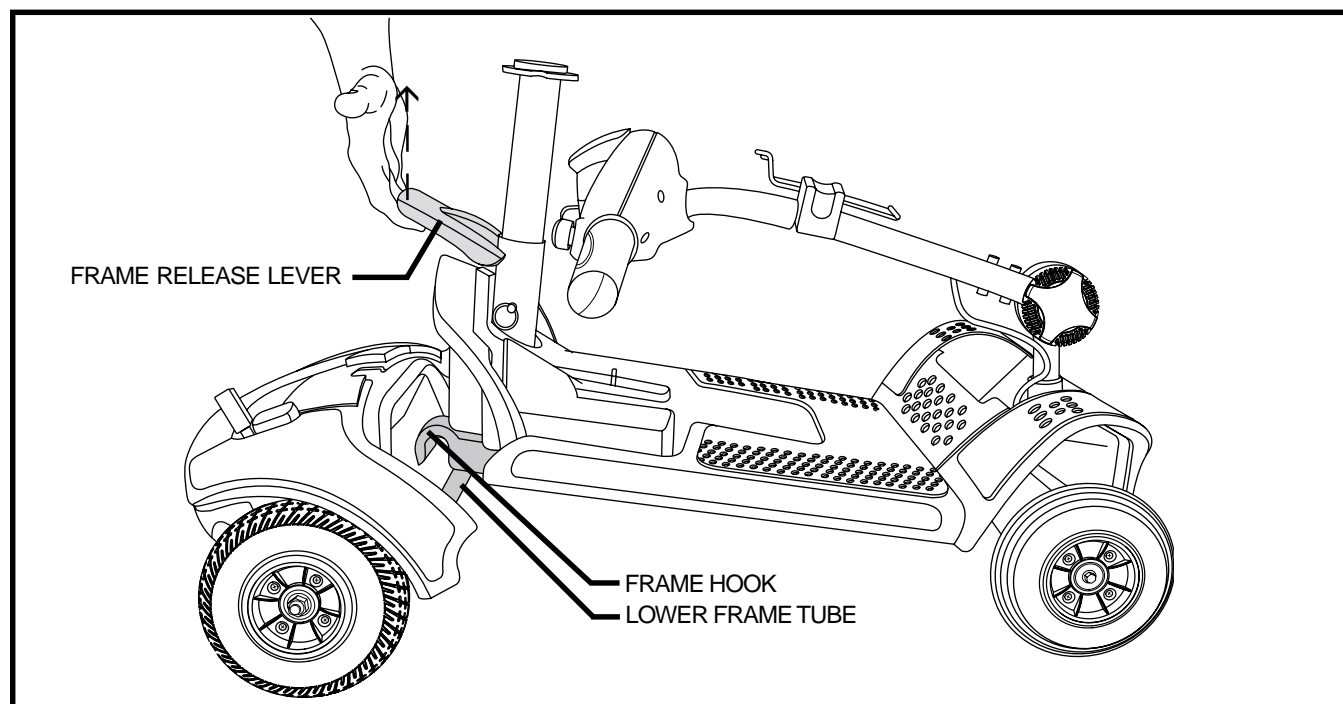

Figure 24. Frame Release Lever
3. Slowly separate the two sections of the Travel Scooter. See **figure 24**.
1. Use the frame release lever to lift the front section as you align the frame hooks of the front section with the lower frame tube of the rear section. **See figure 24.**